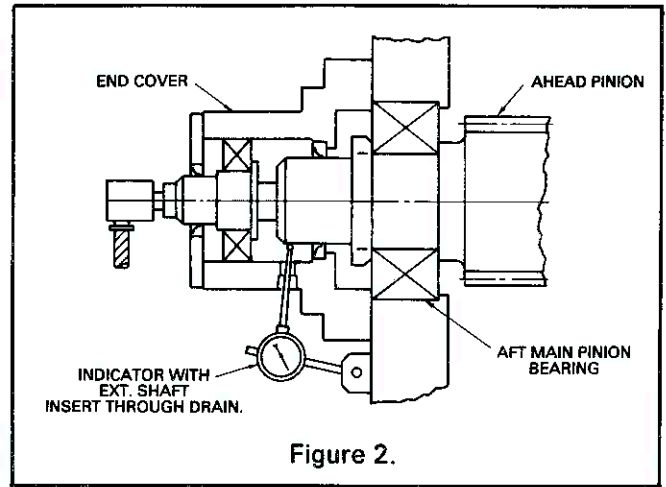

Figure 2.
- C. Mount indicator with extension shaft bearing on aft end of pinion shaft. See Figure 2.